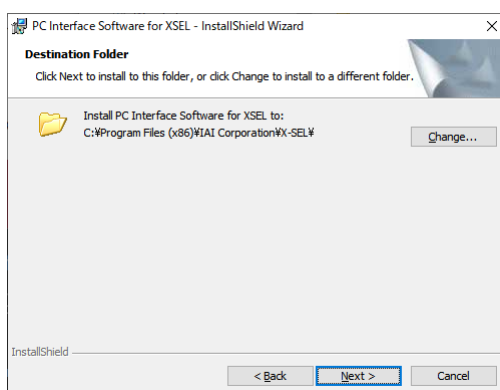

Fig. 1.10 Installation Destination Folder Designation Screen
- 8) Designate the destination for installation of the PC Interface Software for XSEL (Fig. 1.10). Normally, the screen as displayed is fine. After designation, click **Next**.